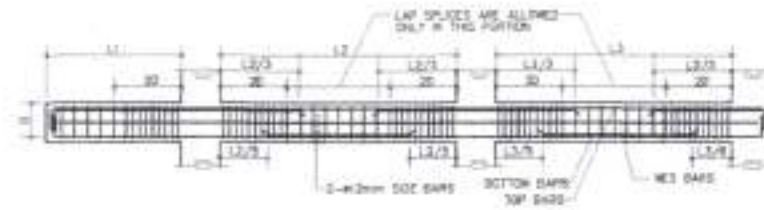

FIG. B-1
- TYPICAL BARS SECTION AND CUTTING DETAILS FOR BEAMS SHALL BE AS SHOWN IN FIG. B-1.
- IF THERE ARE TWO OR MORE LAYERS OF REINFORCING BARS, USE 25mm BAR SEPARATORS SPACED AT 1.0M ON CENTER. IN NO CASE SHALL THERE BE LESS THAN TWO (2) SEPARATORS BETWEEN TWO LAYERS OF BARS.
- MINIMUM CONCRETE PROTECTION FOR REINFORCING BARS OR STEEL SHAPES SHALL BE AS SHOWN IN FIG. B-1 UNLESS SPECIFIED ELSEWHERE.